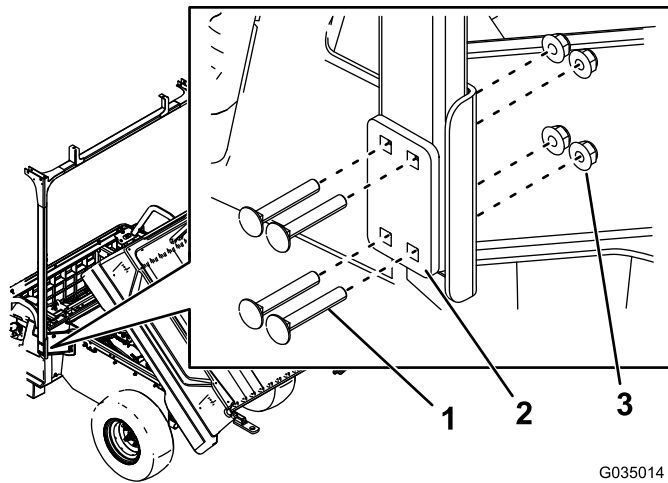

Figure 7
6. Loosely install the rear tubes to the rear loop brackets using 8 carriage bolts (5/16 x 2 inches), 2 mounting plates, and 8 nuts (5/16 inch) as shown in Figure 7.